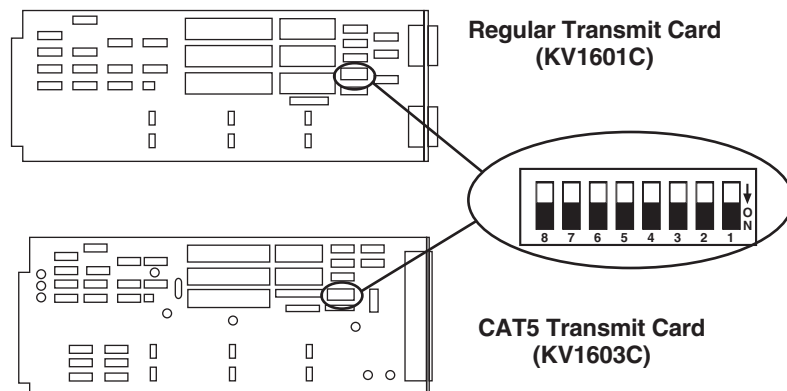

Figure 6-7. The Transmit Cards' DIP switch.
2. Orient your first Transmit Card as shown in Figure 6-7, and find its colored DIP-switch assembly.